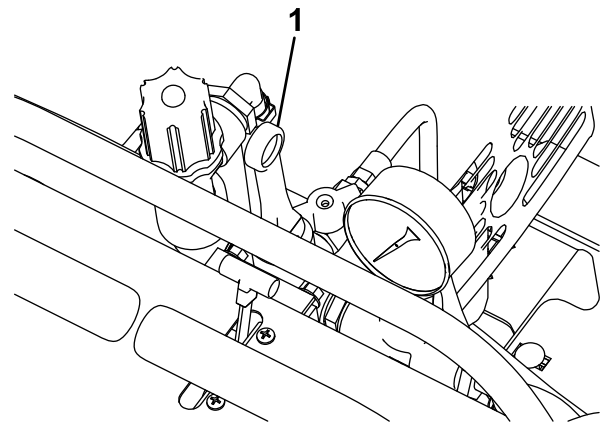

Figure 21
3. Open the sprayer valve to begin spraying (Figure 21).